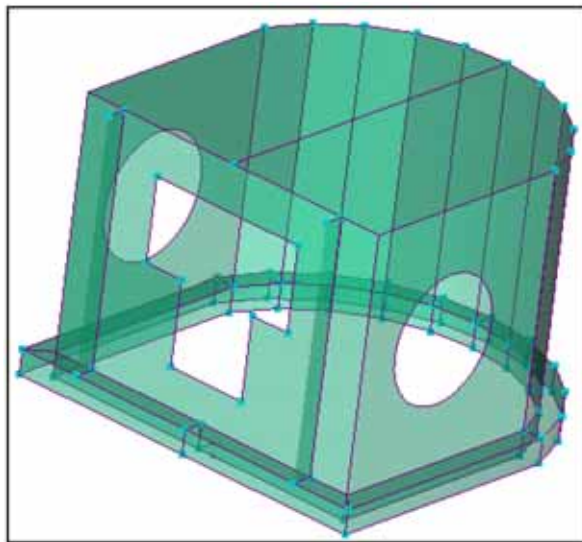

Figure 48: Completed model
- The model should now resemble the STL model but as a single surface form, as shown in Figure 48.